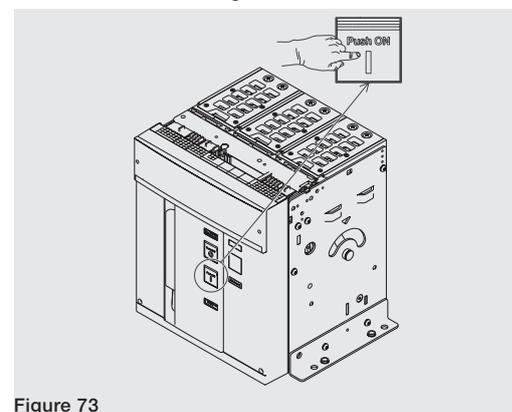

Figure 73
4. Closing - Press the closing pushbutton "I - Push ON" as indicated in Figure 73.